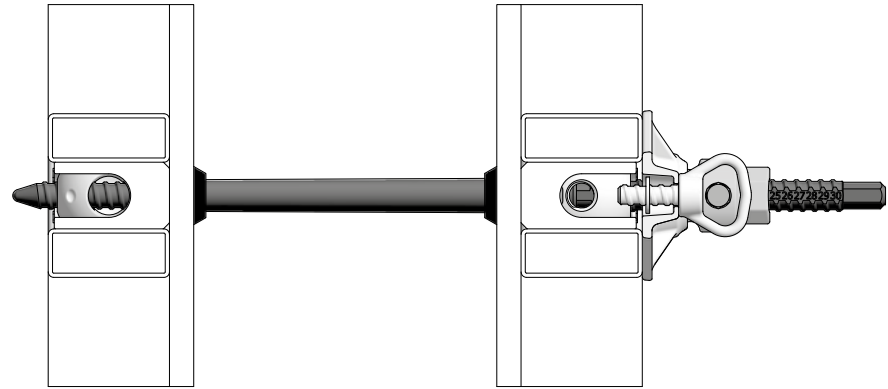

Fig. 16.2
- Single-sided tying with XT taper tie 20 or 23 (Fig. 16.2) without plastic tube